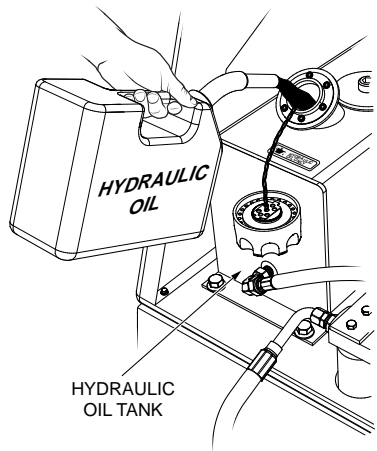

Figure 44. Adding Hydraulic Oil
8. Remove the hydraulic oil filler cap (Figure 44), and add hydraulic oil as required. Fill to the normal operating mark as indicated on the hydraulic oil sight gauge.